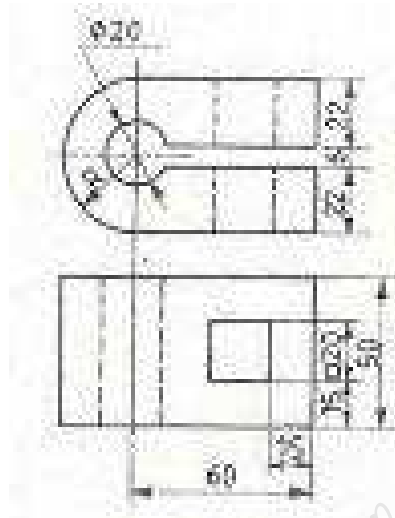

Figure 7
7. Two views of a casting are shown in figure 7. Draw the isometric projection of the casting (all dimensions are in mm). [16]